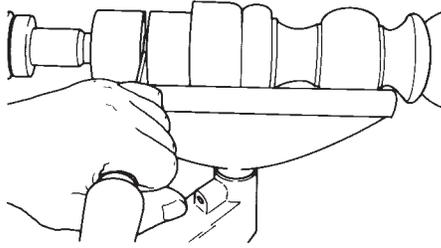

Figure D-49
6. **Parting** -- Use a parting tool, turned on its edge to scrape away stock from the ends of the spindle. See Figure D-49. Always leave 1/8 the thickness of the diameter. For example: if the diameter is 2", leave 1/4"; if 3", leave 3/8"; if 4", leave 1/2". Remove the spindle from the lathe and cut off the waste stock.